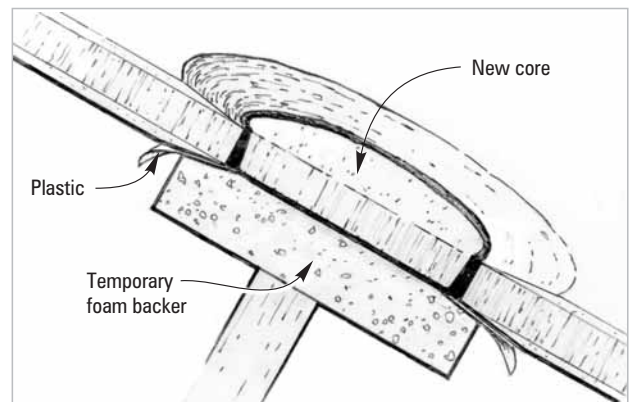

Figure 5-14 Brace a temporary backing against the back of the hole to support the new core.
2. Prepare a temporary backing to support the core while bonding it in position and while laminating the new outer skin patch. Cut a piece of low-density insulating foam slightly larger than the hole opening. Bevel the edges of the foam so the face of the foam is flush with the inner skin/core bond line. Cover the foam with 4-6 mil plastic and brace it in position against the inner edge of the hole. If the foam is too stiff to conform to a curved panel shape when braced from the back, sand the foam to a shape that matches the panel curve (*Figure 5-14*).